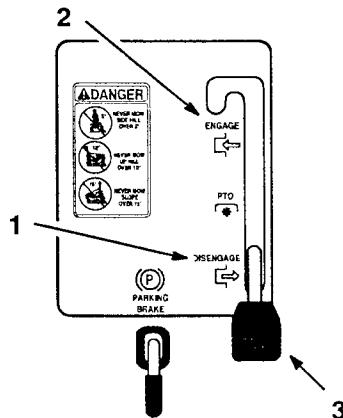

Figure 5
2. Move the blade control (PTO) to "ENGAGED" (Fig. 5).
2. Move the blade control (PTO) to “DISENGAGED” (Fig. 5).